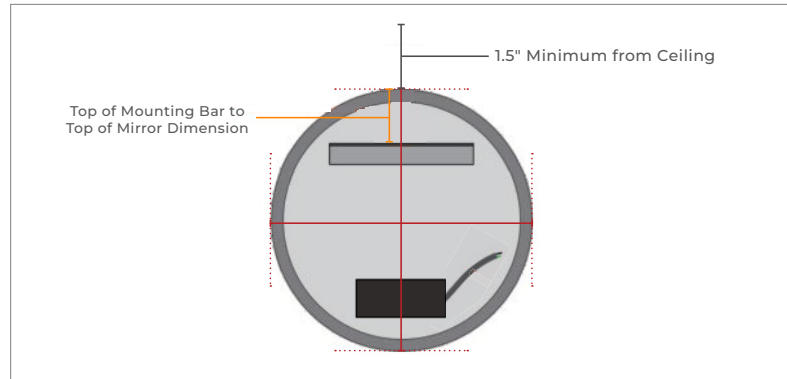
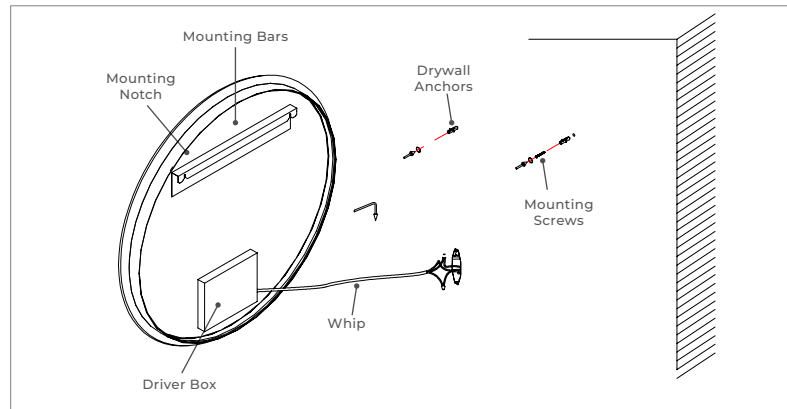

FIGURE 1
FIGURE 2
A) Measure the mirror and mark desired location on wall. Ensure the top edge of the mirror is at least 1.5" from the ceiling. We recommend measuring 4 edges - top, bottom, left and right - so that all four edges can be traced on the wall for accurate hanging. Additionally, trace lines from the center point of these four edges to the center point of the mirror. (FIGURE 1)
C) Locate the (2) mounting notches on the mounting bar. From the vertical center line of the mirror, measure the distance to each mounting notch. With these measurements mark the locations of each mounting notch on the wall. Ensure the line between both notches is flat and parallel to the ground. We recommend verifying with a level. These two locations are where you will drill holes into the wall and install the drywall anchors and mounting screws for supporting the mounting bar and mirror. Double check the measurements for each drill hole location on the wall to ensure they match the measurements for the mounting notches on the mirror mounting bar.
E) Drill mounting holes into the wall and insert drywall anchors. Insert mounting screws into drywall anchors and leave approximately ¼ inch of the screw head visible for hanging the mirror on wall. (FIGURE 2)